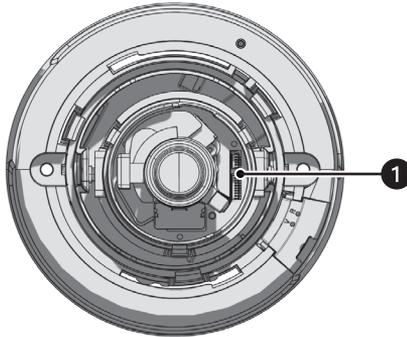

Figure 2. Orienting the Camera
1. Properly orient the camera to ensure that the video is right-side-up when viewed. The lens connectors should be on the right side of the lens when you are looking directly at the camera (refer to Figure 2).